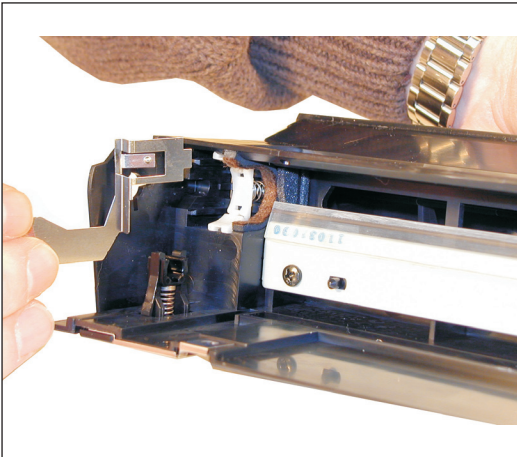

Figure 19
12) To keep them from being lost, remove the two white plastic mag. Roller holders, and the electrical contact from the hopper. See Figure's 18 & 19 (see FIG 19 on next page)